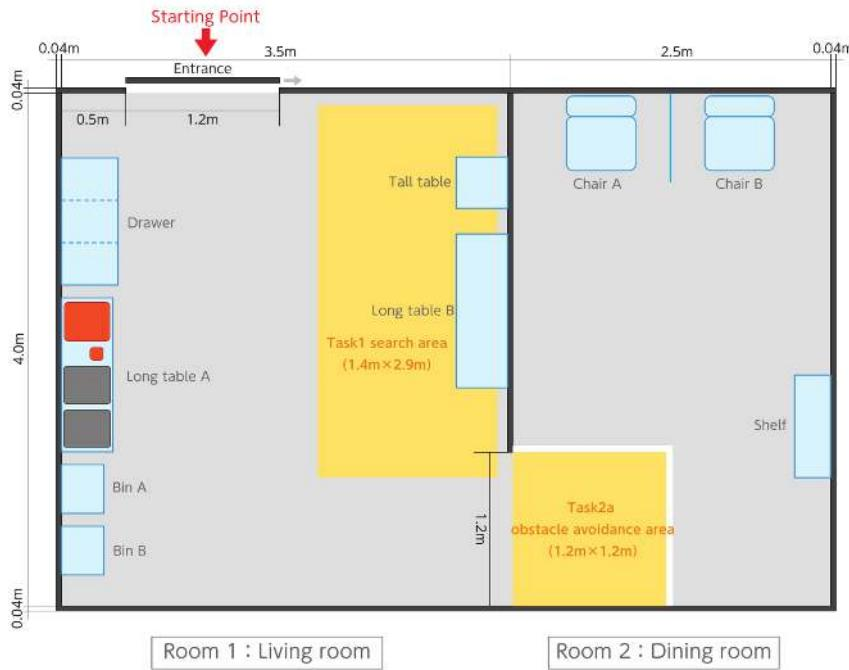

Figure 2: Test arena layout. The red arrow indicates the starting point at the beginning of the competition or after a restart.
- The room layout and furniture positions will be as in Figure 2 and the furniture models are presented in Appendix 4.1.
- Enters to any place in Room 2 (dining room) different than the obstacle avoidance area in Figure 2 while avoiding obstacles – the time starts counting when entering to Room 2 OR when the robot starts any action towards this goal (e.g. searching for objects in the access between rooms).